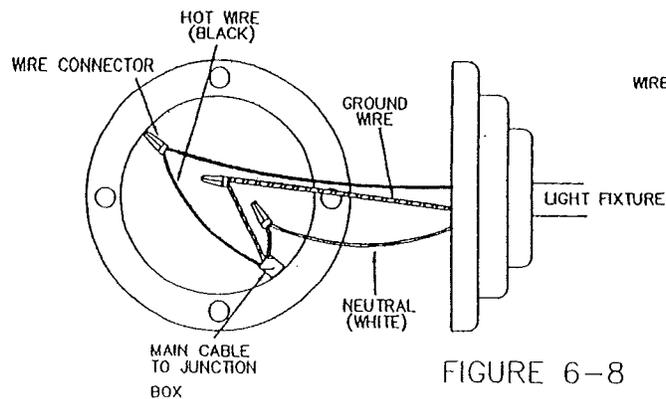

FIGURE 6-8
**6-9.1** Some light fixtures and ceiling fans may not be installed when the home is built because of possible damage to the fixture while the home is being moved. These fixtures include exterior lights, ceiling fans, and chain hung interior fixtures. When installed, all fixtures must be grounded either by a fixture mounting screw or a fixture-grounding conductor. In the case of a chain-hung fixture, both are required. Typical installations are shown in Figures 6-8, 6-9 and 6-10.